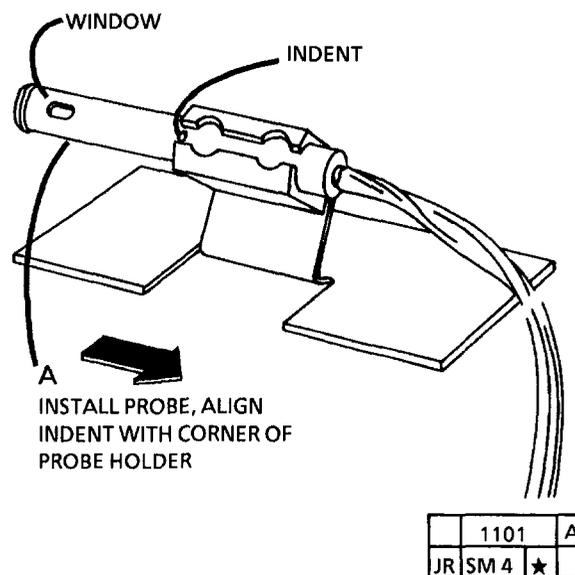

Figure 1. Install the Electrometer Probe in the Probe Holder
5. (FIGURE 1): INSTALL ELECTROMETER PROBE IN THE PROBE HOLDER